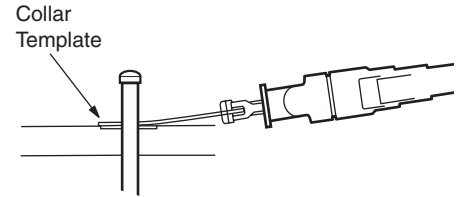

Figure 10. Collar Template
**Tip: Use the UltraFlex® Collar Template (part #1-17-7) (see Figure 10).**